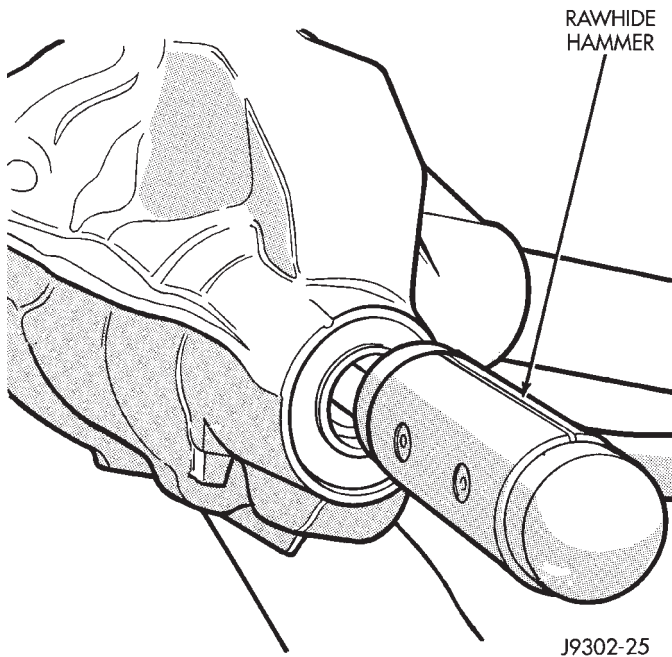
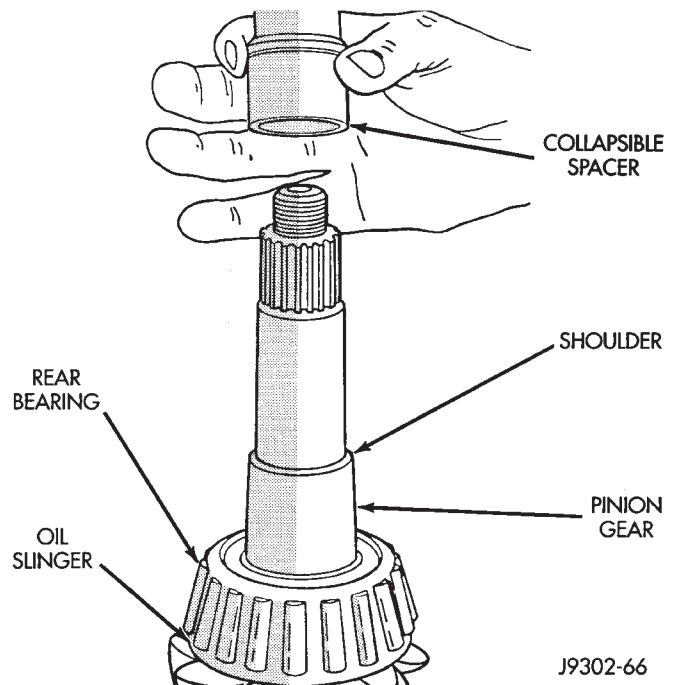
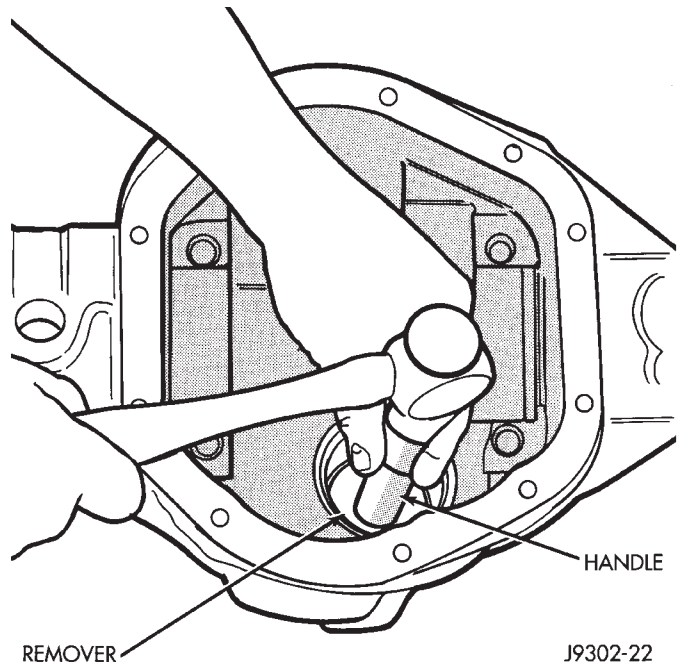

Fig. 34 Remove Pinion Gear
Fig. 35 Collapsible Spacer
Fig. 36 Front Bearing Cup Removal
(2) Remove the pinion gear from housing (Fig. 34). Catch the pinion with your hand to prevent it from falling and being damaged.
(3) Remove the pinion gear seal with a slide hammer or pry out with bar.
(4) Remove the collapsible preload spacer (Fig. 35).
(5) Remove oil slinger, front bearing.
(6) Remove the front pinion bearing cup with Remover D-147 and Handle C-4171 (Fig. 36).